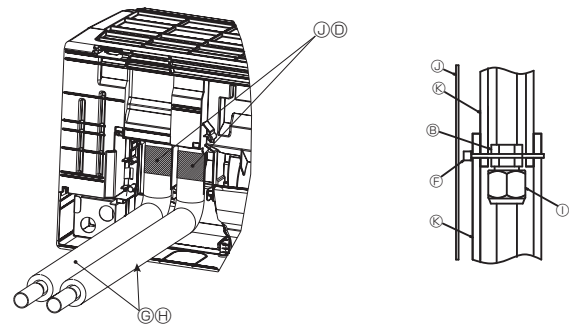

Fig. 3-19
- (7) Cover the joint with a pipe cover, and fix them with a band Ⓔ. (Fig. 3-19)